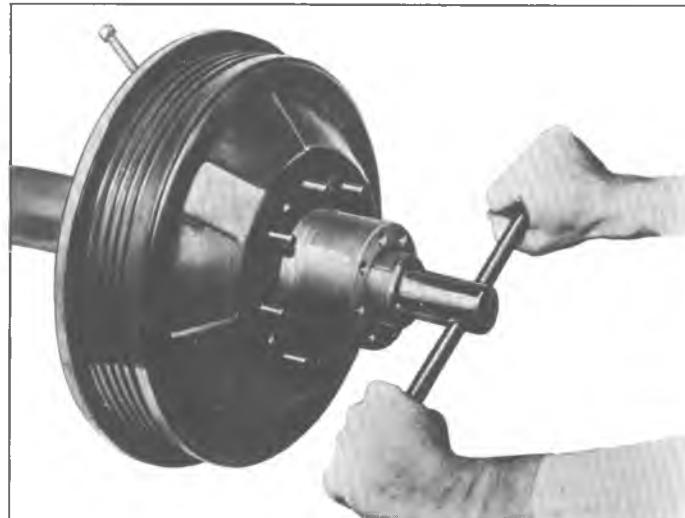

Fig. 65—Removing Lock Nut—Typical
2. Disengage tang of retainer from slot or flat of locknut, then remove locknut from housing tube, using J-2222, as shown in figure 65.
Use the procedure given for "Chevrolet 10-1/2" Ring Gear Axle", and use J-0870 to remove the adjusting nut. Refer to figure 65.